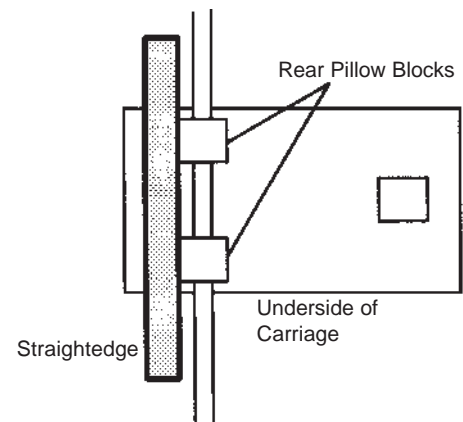

FIG. 25
9. Insert a rail through the rear two pillow blocks, and align the rear pillow blocks to each other with a straight edge laid along their sides. See FIG. 25. When aligned, tighten the four socket-head screws which hold each rear pillow block. Slide the other carriage shaft through the front bearing, but do not tighten the socket head screws.